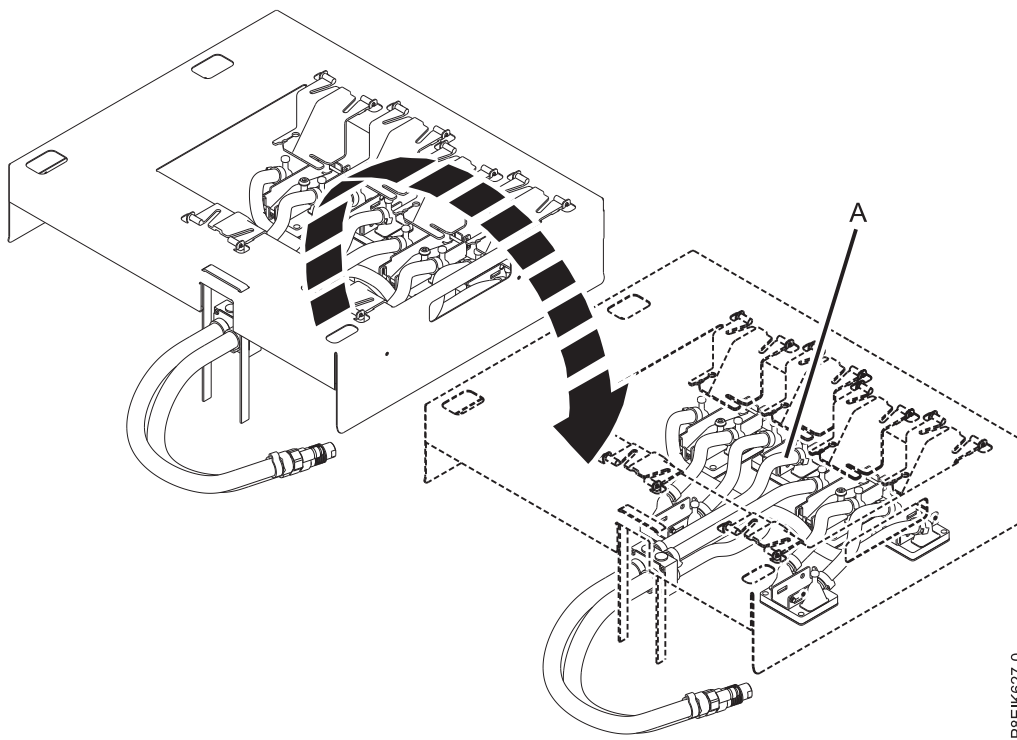

Figure 27. Moving the cold plate installation carrier over the replacement cold plate assembly
4. Lift the cold plate installation carrier off the faulty cold plate assembly, and place it over the replacement cold plate assembly as shown in Figure 27.